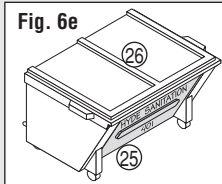

Fig. 6e
- Glue Dumpster Front (25) to Dumpster Frame (26) (Fig. 6e).